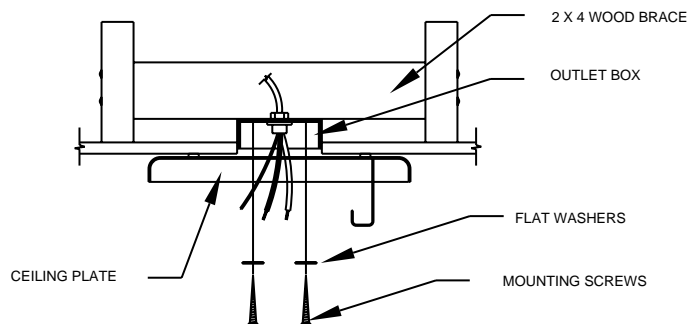

FIGURE 4B.
B. THREAD THE LEAD WIRES THROUGH THE OPENING IN THE CEILING PLATE AND INSTALL THE CEILING PLATE TO THE 2 X 4 BRACE WHICH SUPPORTS THE OUTLET BOX. USE (2) #10 WOODSCREWS 3" LONG AND (2) FLATWASHERS FOR MOUNTING. DRILL (2) PILOT HOLES FOR THE MOUNTING SCREWS 9/64" DIAMETER. SEE FIGURE 4B.